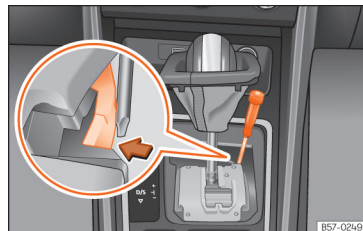

Fig. 53 Selector lever: manual release from position P.
- Using a screwdriver, press and hold the yellow unlocking tab sideways » » Fig. 53.